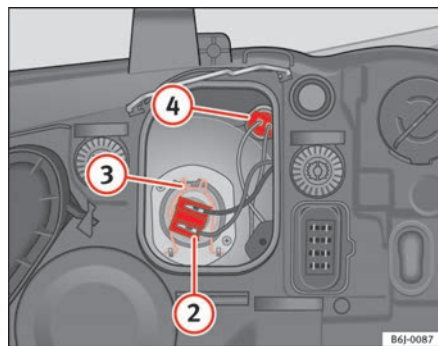

Fig. 147 Side lights
- Remove the connector ⇒ fig. 147 ② from the bulb.
- Unclip the retainer spring ⇒ fig. 147 ③ pressing inwards to the right.